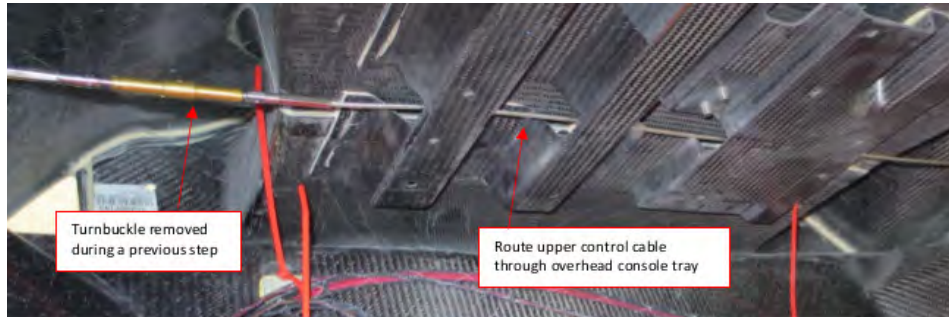

FIGURE 9-26
8. Route the upper control cable through the overhead console tray. (See Figure 9-26.) Careful not to damage any electrical wires while routing the cable. Snaking the cable is permissible.